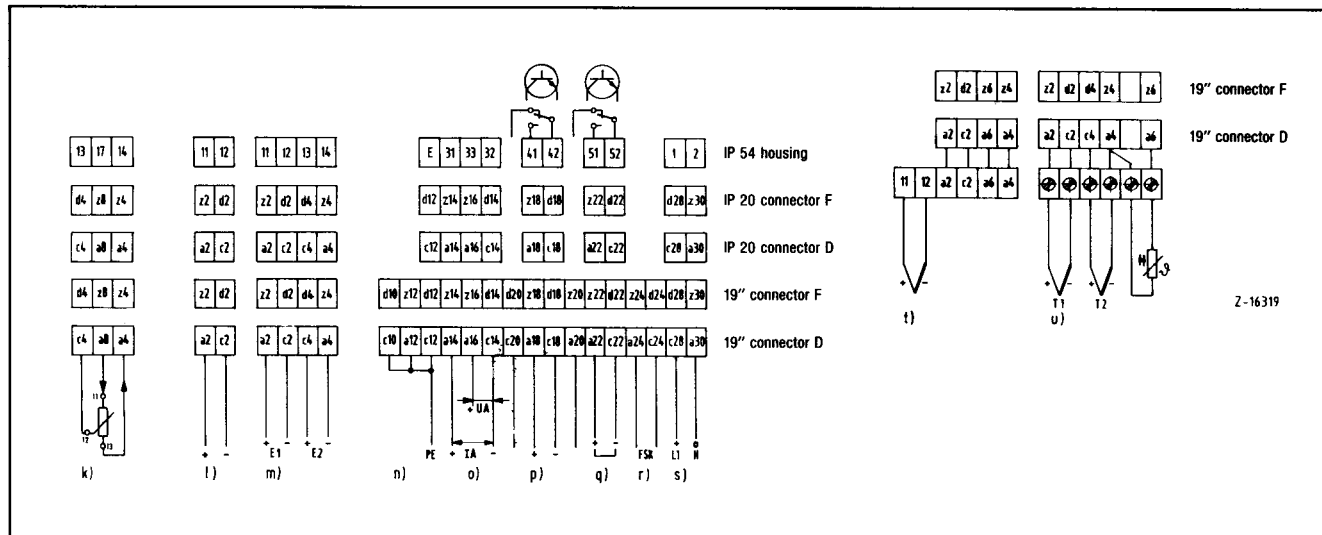

Fig. 8.2 Connection diagram
FSK bus – parallel switching (max. 21 units) of the connections (Fig. 8.2, pos. r).
- f) Thermocouple or voltage measurement with internal reference junction (19" plug-in card: see Fig. 8.2)
- h) Thermocouple or voltage measurement with sum, difference or mean value with internal reference junction (19" plug-in card: See Fig. 8.2)